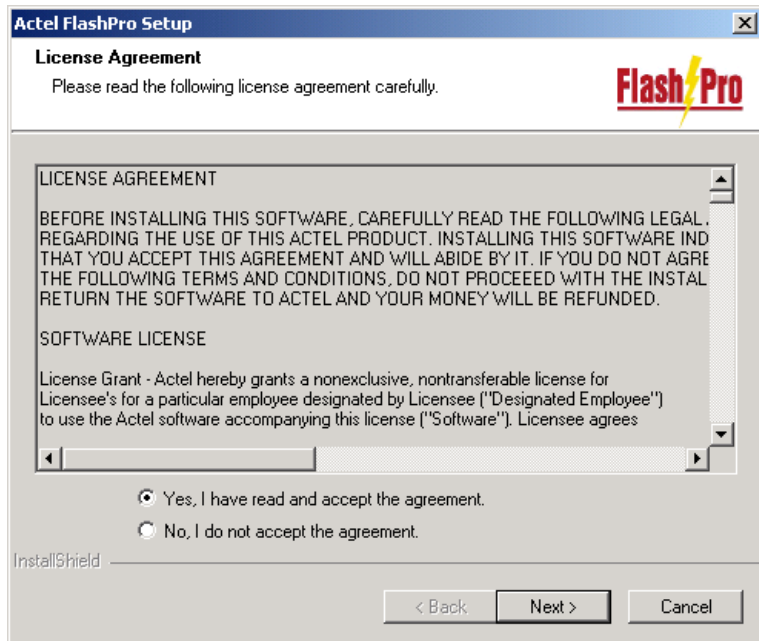

Figure 1-2. License Agreement
3. Click *Yes*, then *Next* to accept the license agreement, as shown in Figure 1-2.